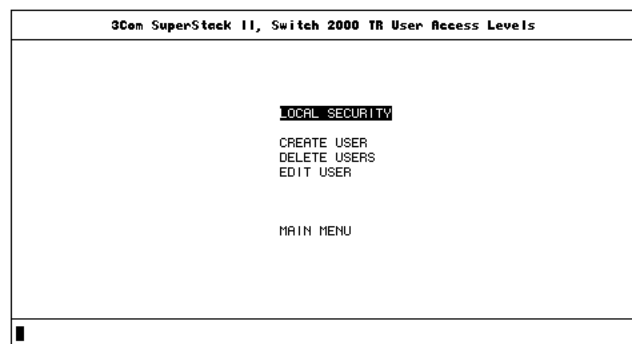

Figure 4-12 TR User Access Levels Screen
- 1 Log on and select USER ACCESS LEVELS from the Main Menu. The TR User Access Levels menu appears. See Figure 4-12.